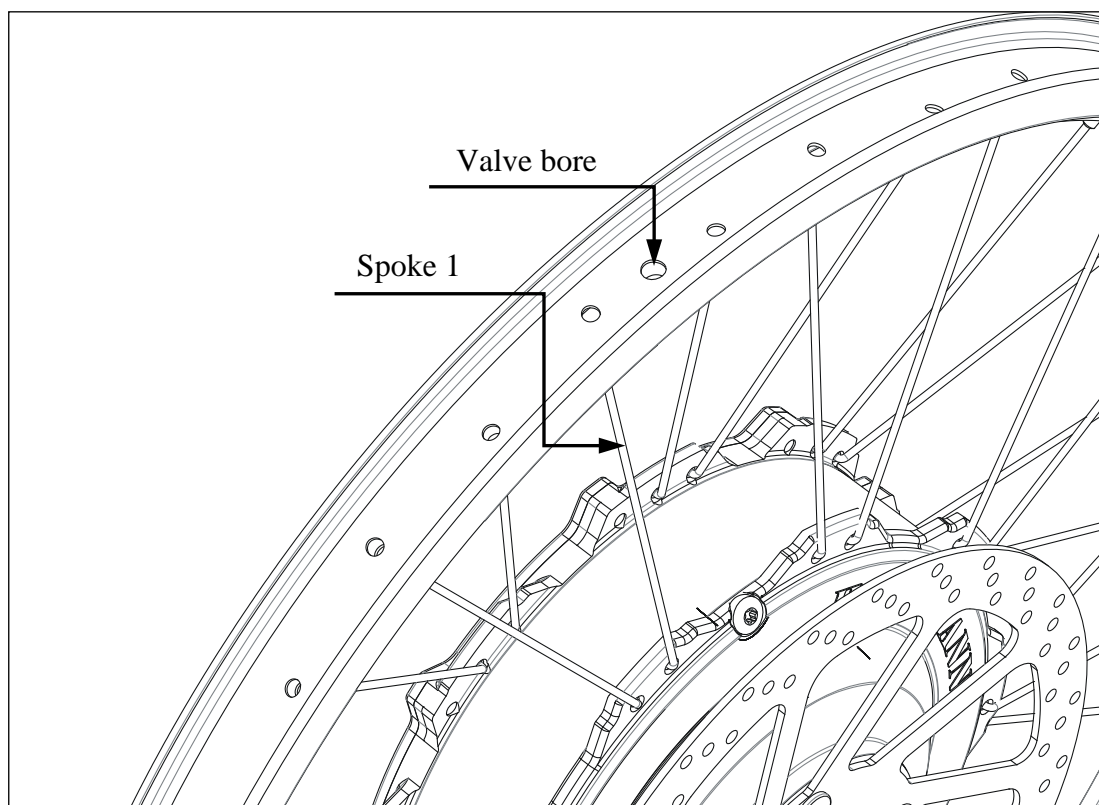

Fig. 4.2 Spoke pattern front wheel, rim 20" or 24", without crossing
- Spokes are not crossed (cf. Fig.4.2).